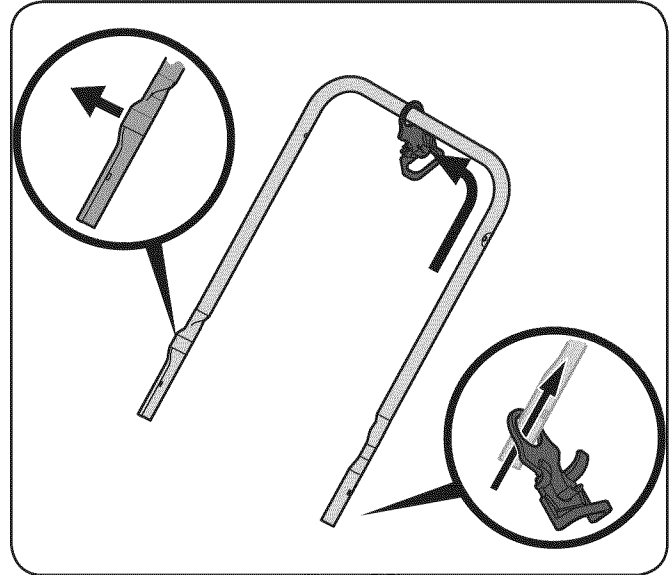

Figure 3-2
1. Install the strain reliever on the mid handle. See Fig. 3-2.
3. Ensure that the cord retainer is on the mid handle's crossbar. Refer to Fig. 3-2.